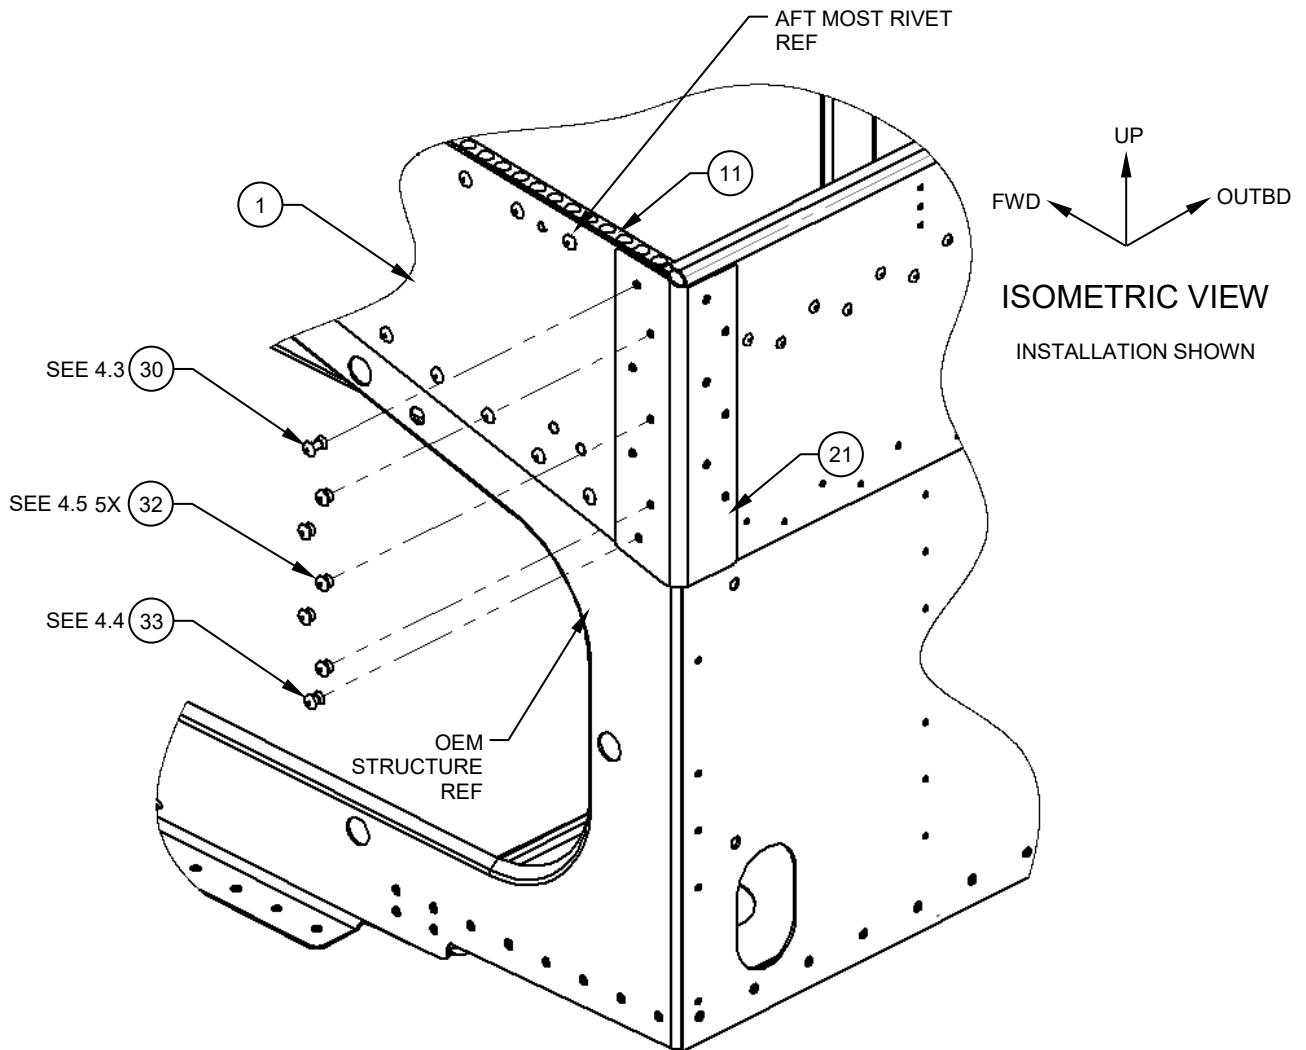

Figure 17
- 4.3. For the upper OUTBD rivet hole on the LHS Angle, Detail, (Item 21), skip the first hole and drill the second hole, on the Dzus Rail, Detail, (Item 11), and back drill from the fourth hole on the Dzus Rail, Detail, (Item 11), through the LHS Angle, Assy, (Item 1), LHS Angle, Detail, (Item 21), then 1x Rivet, Solid, Universal Head, (Item 30). See Figure 17.
- 4.4. For the lower OUTBD rivet hole on the LHS Angle, Detail, (Item 21), back drill from the aft most OEM rivet location, through the LHS Angle, Assy, (Item 1), LHS Angle, Detail, (Item 21), then 1x Rivet, Solid, Universal Head, (Item 33). See Figure 17.
- 4.5. For the remaining five locations drill through existing holes in the LHS Angle, Detail, (Item 21), through the LHS Angle, Assy, (Item 1), and 5x Rivet, Solid, Universal Head, (Item 32). See Figure 17.